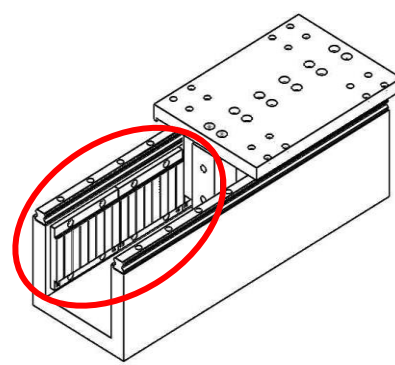

Figure5.1-23 Install one side of stators
- ▶ Use the non-magnetic tool to install one side of the stators for half of the stroke. (refer to Figure5.1-23)